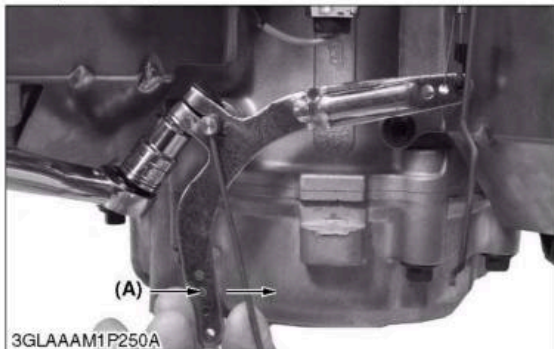

Figure 10-72. Adjusting Governor Lever (Air Cleaner Base Removed for Clarity).
- (1) Breather Hose and Clamp
- (2) Connection Port
7. Insert a nail or similar tool into the hole on the cross shaft and rotate the shaft counterclockwise as far as will turn, then torque the hex nut to 6.8 N·m (60 in. lb.). See Figure 10-72.